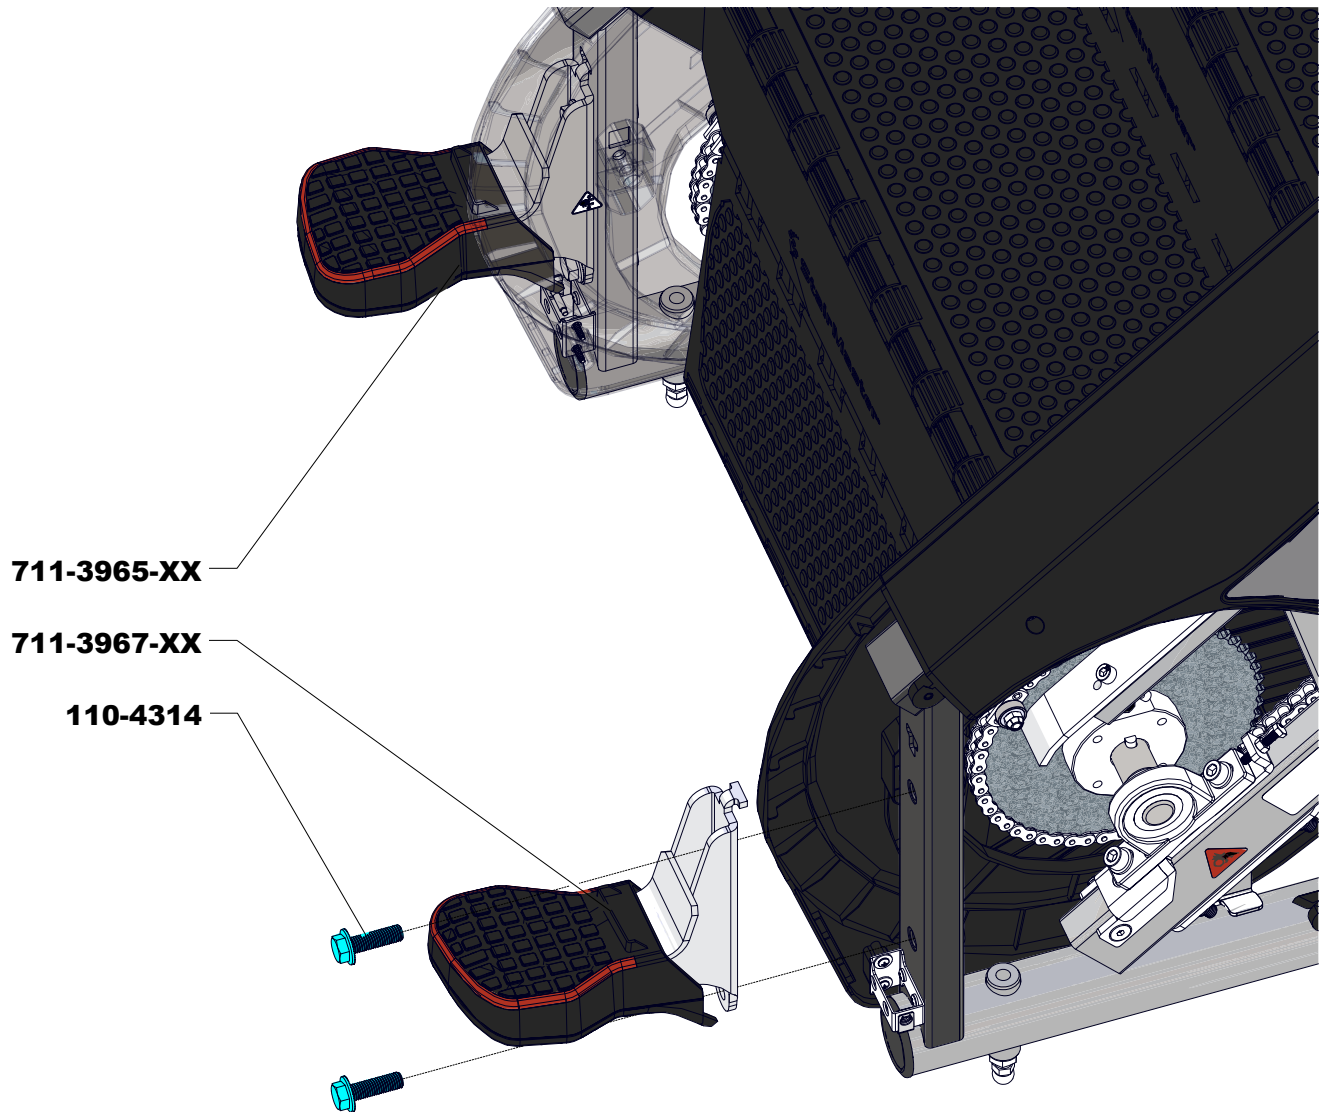

Fig. 16
6. Install left and right courtesy step assemblies and secure with four screws 110-4314. Ensure orientation of foot plastics as shown in Fig. 16 with curved points towards the centerline of the machine.